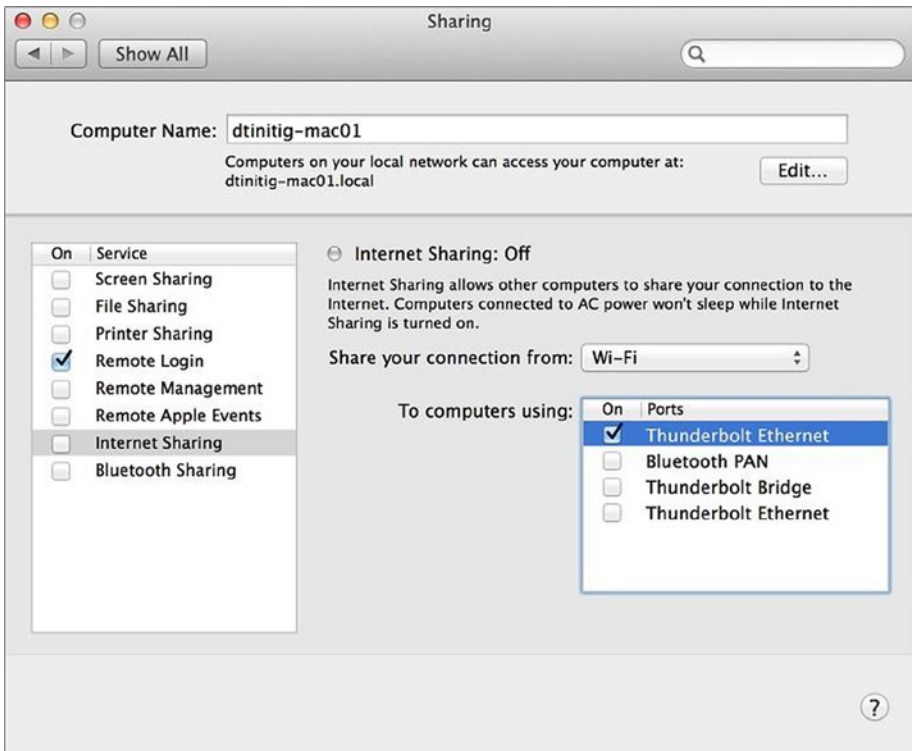

Figure 5-19. Sharing an Internet connection on MacOSX
6. It’s easy to share the Internet connection between different adapters on a Mac. Using the Apple menu, choose System Preferences and select Internet Sharing. Then select the adapter that will share the Internet connection and the adapter that will receive the sharing. For example, Figure 5-19 shows the WiFi adapter on MacOSX sharing the Internet connection with the Ethernet adaptor, wherein Intel Galileo is connected.